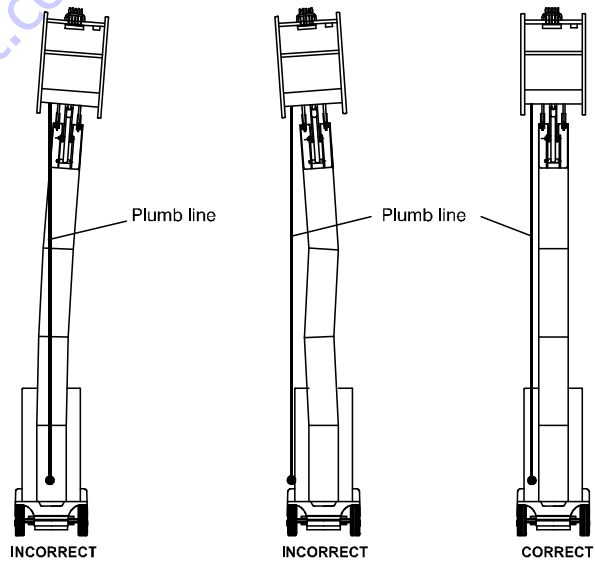

Figure 5-27. Mast Vertical Alignment
- Fully raise the mast and use a plumb line to ensure that the vertical alignment of the mast sections is correct (See Figure 5-27).